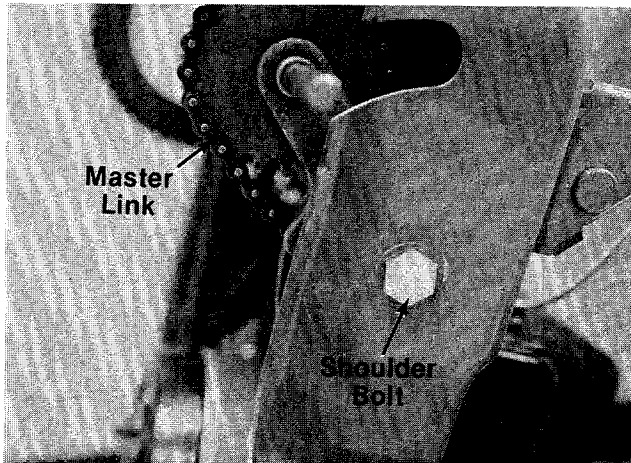

FIGURE 23.
- Remove the large shoulder bolt and master link on the chain. See figure 23.